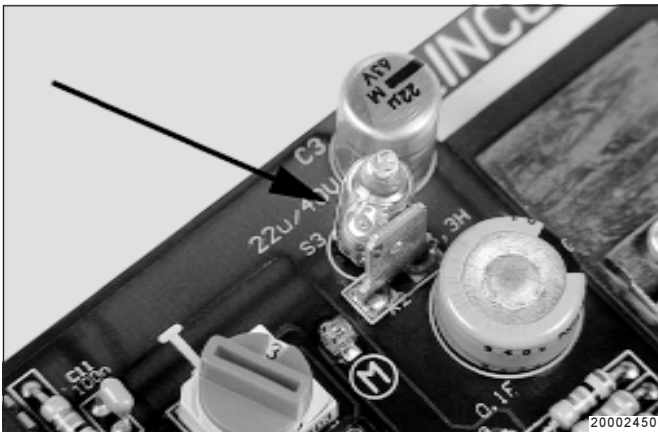

Fig. 5: Shock sensor
- Precise recording of the real vehicle travel time by means of a shock sensor (Fig. 5) which detects all travelling motions.
- Compared to the tractors, the trailers/semi-trailers do not have terminal 15 (driving switch) which is used for recording the vehicle running time. This function is taken over by the shock sensor (Fig. 5) which is integrated in the control unit.